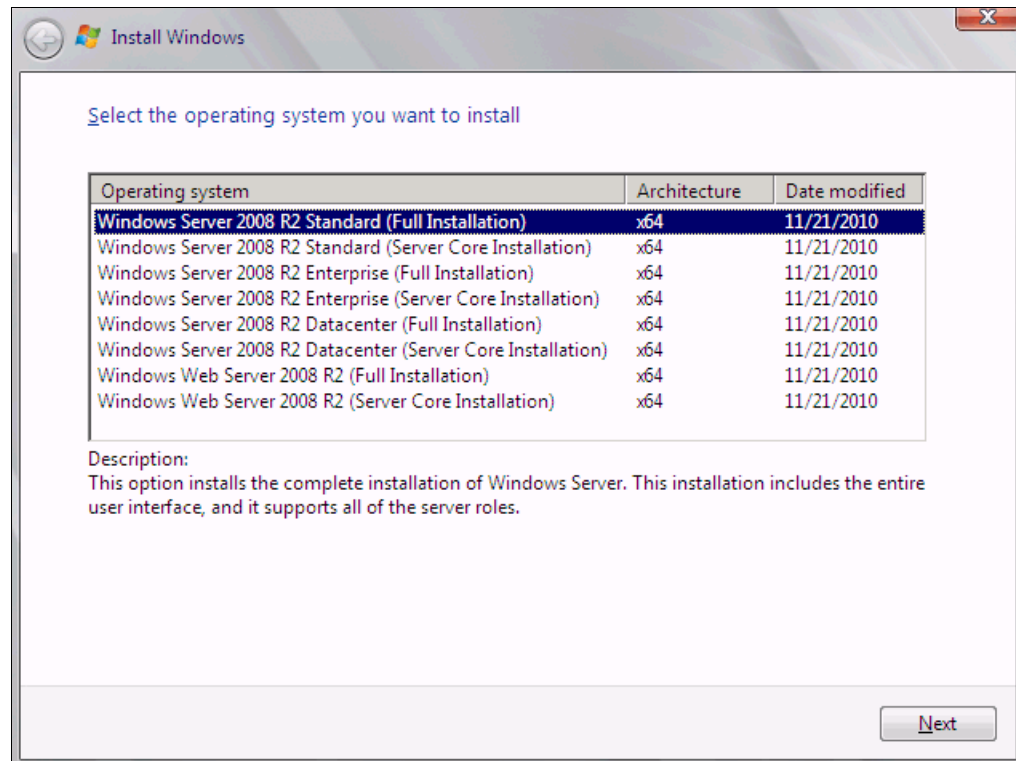

Figure 9-129 Selecting the operating system to install
9. In the Install Windows window (Figure 9-129), select your operating system, and click **Next**. Select your operating system.